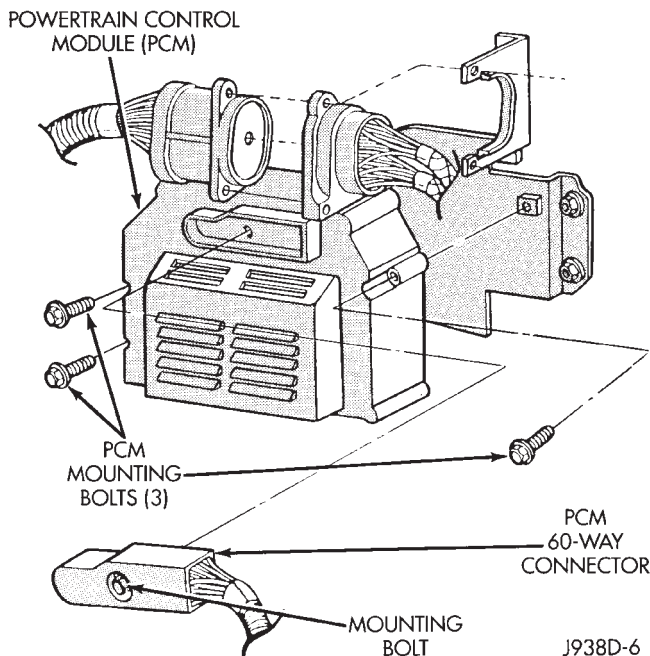

Fig. 1 Powertrain Control Module (PCM)
(1) Verify that the 60-way connector is fully inserted into the connector of the powertrain control module (PCM) (Fig. 1). Verify that the connector mounting screw is tightened to 4 N•m (35 in. lbs.) torque.